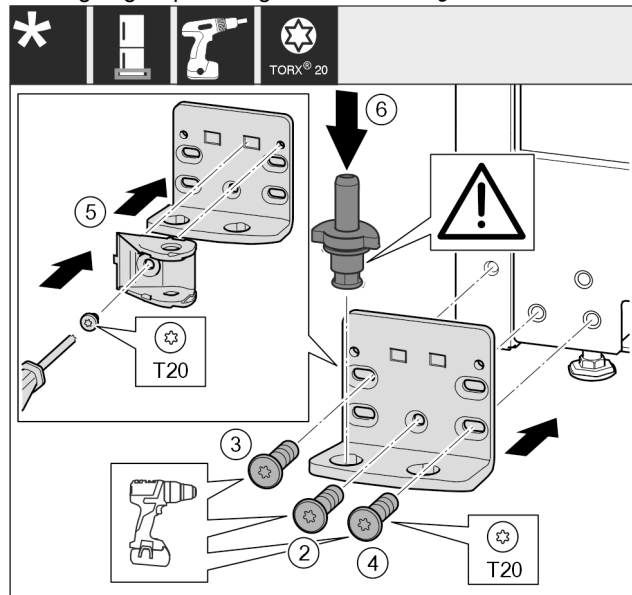

Fig. 16
- ▶ Place the bearing bracket on the other side and screw it in using the T20 screwdriver. Start with screw 2 at the bottom in the middle. Fig. 16 (2)
- ▶ Screw in screws 3 and 4. Fig. 16 (3,4)